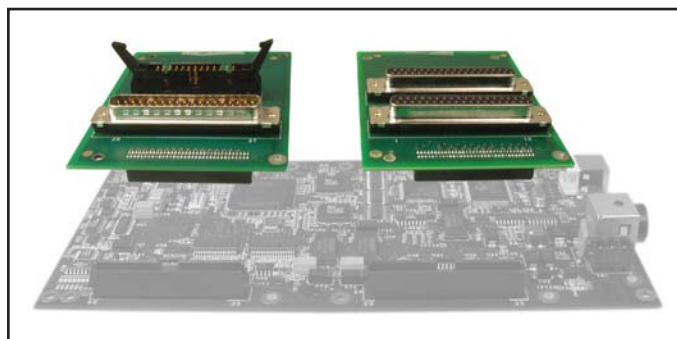

Figure 16. This example shows an EP353 accessory panel, which plugs into connector J2, and an EP356 accessory panel, which plugs into J3.
- EP353 – This accessory panel plugs into connector J2 of a DT9834 Series module and provides one 37-pin, D-sub connector for attaching analog input signals and one 26-pin connector for attaching a 5B signal conditioning backplane. (See Figure 16.)
- EP356 – This accessory panel plugs into connector J3 of a DT9834 Series module and provides two 37-pin, D-sub connectors. You can use one of these connectors to attach analog output, counter/timer, trigger, and clock signals, and the other connector to attach digital I/O signals. (See Figure 16.)